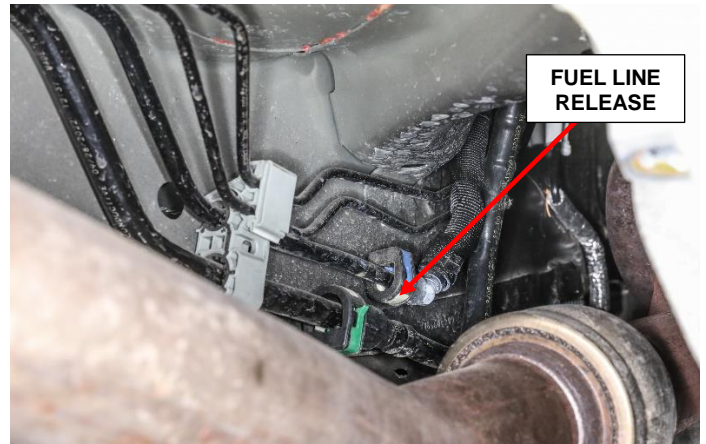
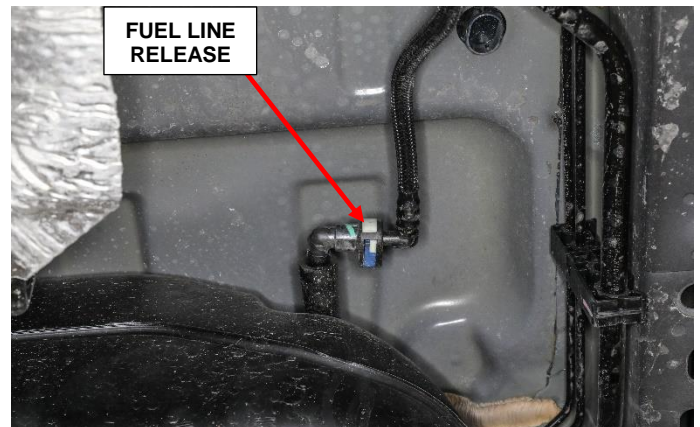

Figure 7 – Front Fuel Line Lock
Figure 8 – Rear Fuel Line Lock
1. Press on the front fuel line lock to release the fuel line (Figure 7).
2. Press on the rear fuel line lock to release the fuel line (Figure 8).
5. Connect the fuel line to the lock connector that is on the front and rear (Figure 7 and Figure 8).